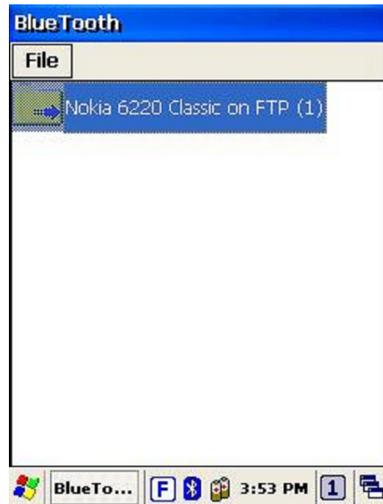

Figure 3-29 Bluetooth File Transfer-3
13. On Bluetooth manager screen, it will add a FTP connection like *Figure 3-29*.